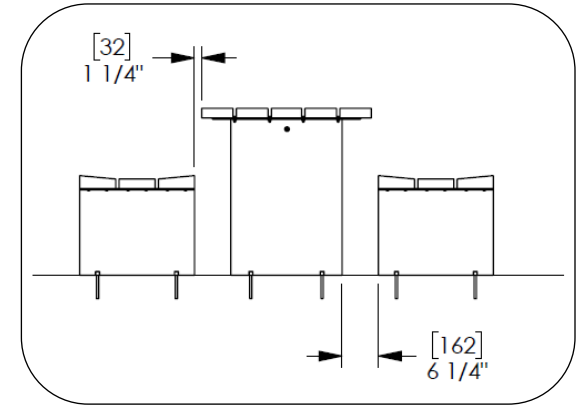

Fig. 3 – Recommended spacing for table with benches
**Note:** Refer to bench installation guide for bench assembly if using backless Bancal bench with Bancal picnic table. Refer to Fig. 3 for recommended bench and table spacing. Site conditions may require different spacing.